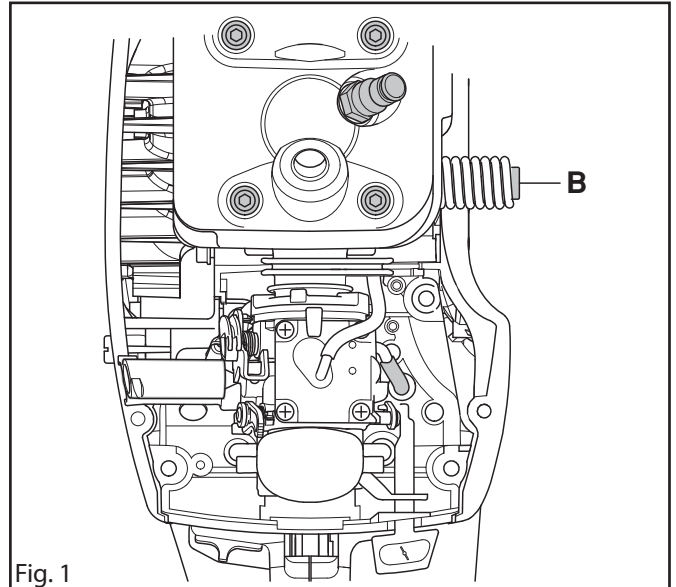

Fig. 1
2. Detach the springs from the cylinder with the help of a 4 mm Allen key. See fig. 1.
2. Attach the springs to the cylinder with the help of a 4 mm Allen key. See fig. 1. Tighten the bolts to 10 Nm.
2. Remove the impulse hose (A) from the hole on the inlet manifold. See fig. 1.
3. Detach the anti-vibration springs (B) from the cylinder. See fig. 1.
4. Undo the four cylinder retaining bolts (C). See fig. 1.
9. Unscrew and remove the decompression valve (D). See fig. 1.